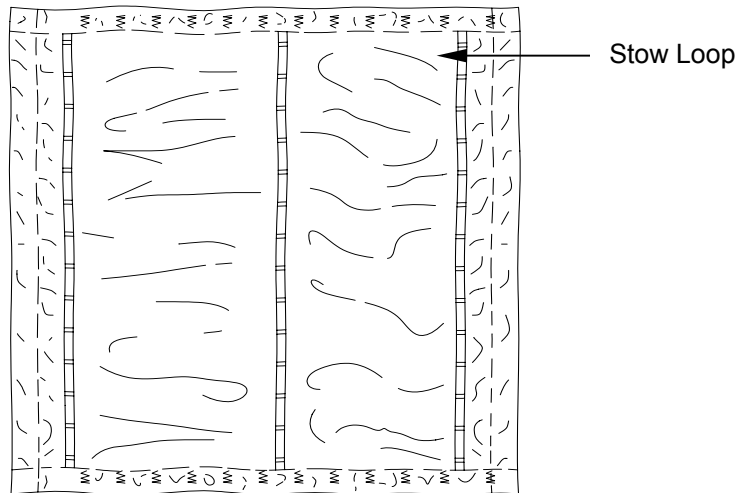

Figure 1. Extraction Line Panel with Stow Loops Facing Up.
- a. Place one Extraction Line Panel on packing table or other suitable surface with stow loops facing up and running lengthwise. Place second panel on top of first panel with stow loops facing down (figure 1).